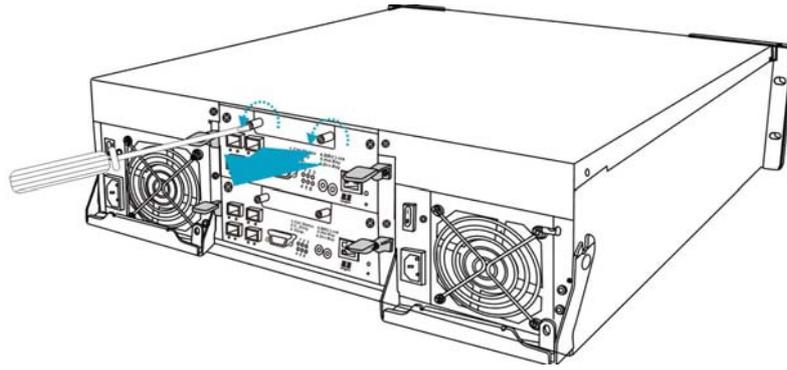

Figure 5-8: Removing the BBU
- Step 1. Remove the faulty unit from the chassis** by loosening the two (2) retention screws located on the sides, then pulling out the BBU. (See *Figure 5-8*)